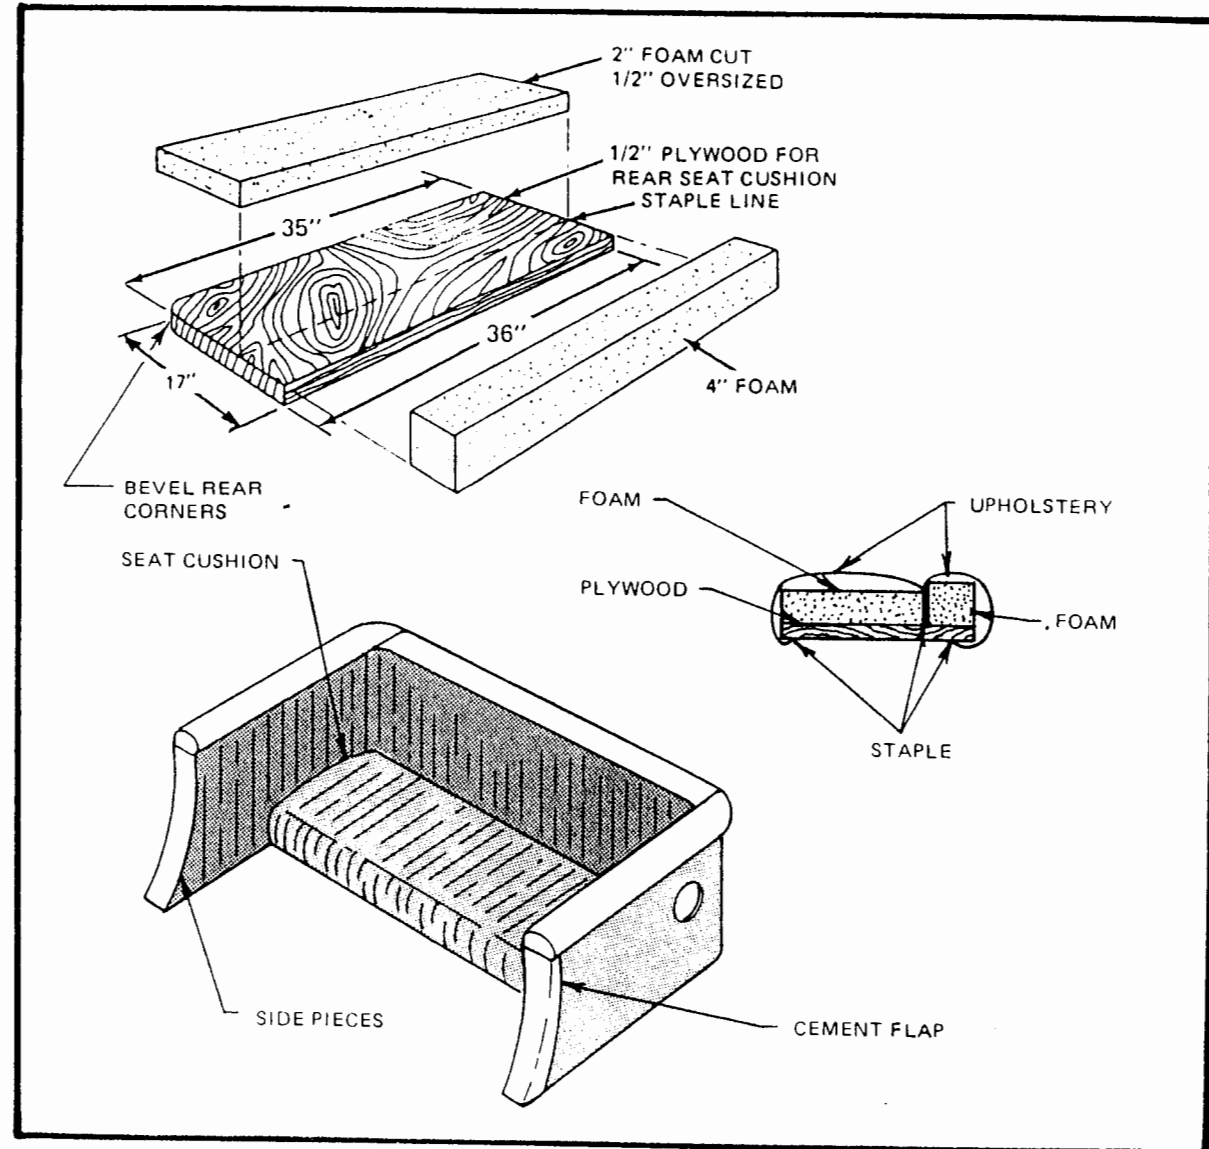

Figure 6
- Cut a piece of 1/2" inch plywood as shown in Figure 6.
- Pull upholstery forward and cement flap on the inside edge of door. Trim off the excess material. Fig. 6 shows the